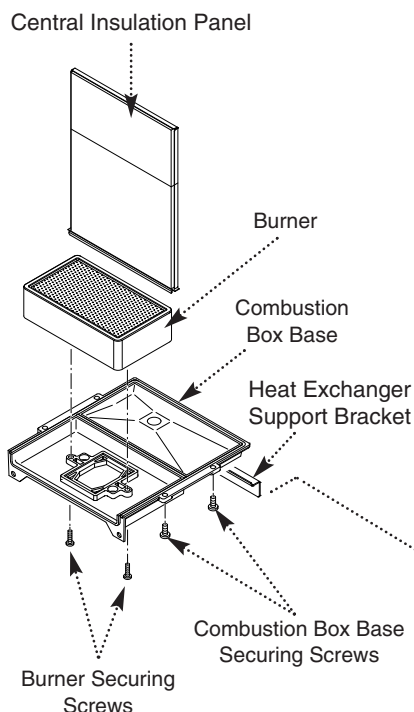

Fig. 44
**NOTE:** The burner skin is fragile - handle with care. Clean and if necessary replace the burner (Fig. 44) (see note above).
h) Loosen the two screws retaining the heat exchanger support bracket and slide to the left to remove (Fig. 44).
j) Lower the central insulation panel and check condition (Fig. 44). Replace the lower insulation pad if necessary.